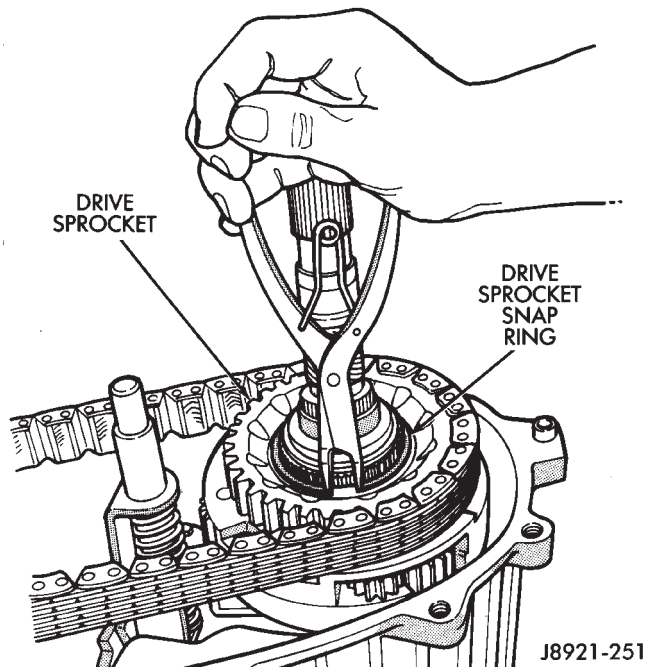

Fig. 19 Drive Sprocket Snap Ring Removal
- (1) Remove drive sprocket snap ring (Fig. 19).